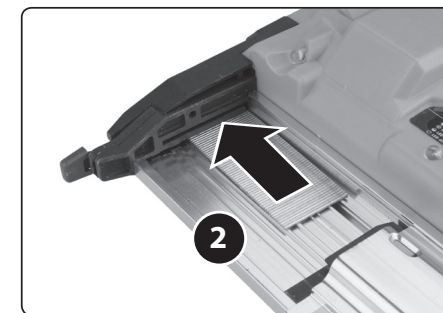
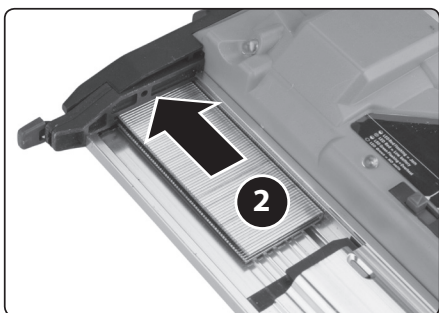

Fig. 2B, inserting the nail strip into the plastic part
Fig. 3B, inserting the staple strip into the plastic part
- Then insert the nail or staple strip as far as possible into the plastic part, otherwise the nails or staples will jam and the cordless power tool will not function correctly, see fig. 2B or fig. 3B.